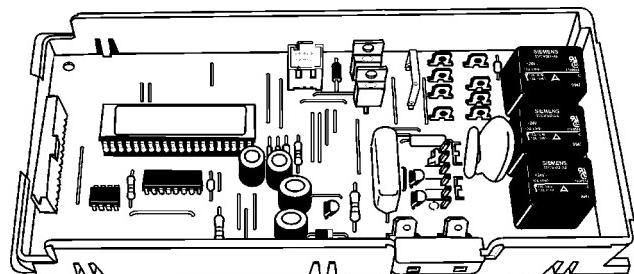

Fig. 3-2
1. Disconnect the ribbon connector and the wiring harness connectors from the electronic control board. (*Fig. 3-2*)